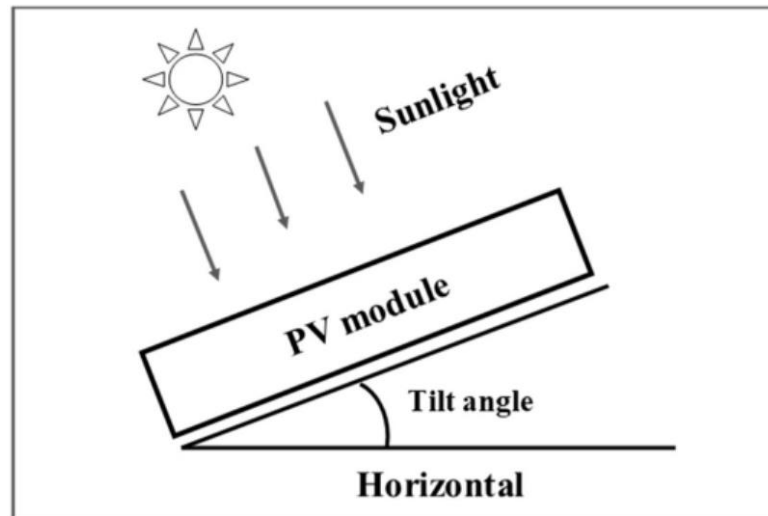

Fig. 5-1 Tilt angle
- ⑤ The cold shrinkable tube should be affixed to the connector and cable in a natural way, and no wrinkle or bulge is allowed ;
- According to IEC62716 “Ammonia corrosion testing of photovoltaic (PV) modules”, HD HES modules can be safely installed in ammonia-heavy environments, such as farm, meadow and so on. IEC62716.
- Installation inclination refers to the Angle between the module and the ground plane, as shown in Figure 5-1.